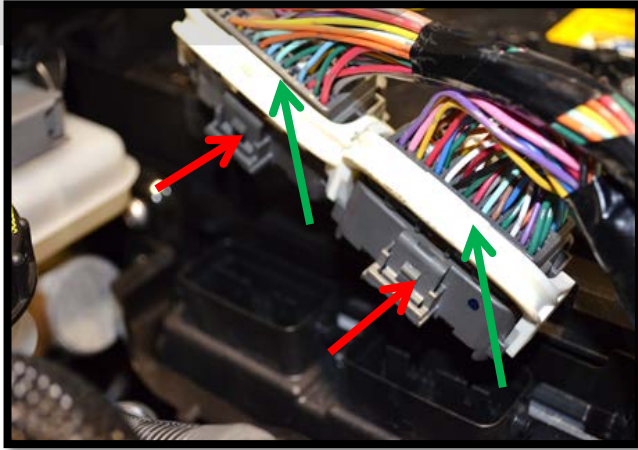

Figure 1d
- g) Disconnect the ECU plugs by pushing on the tab (Red Arrow in Figure 1d) and pulling the white lock upward simultaneously. (Green Arrow in Figure 1d)